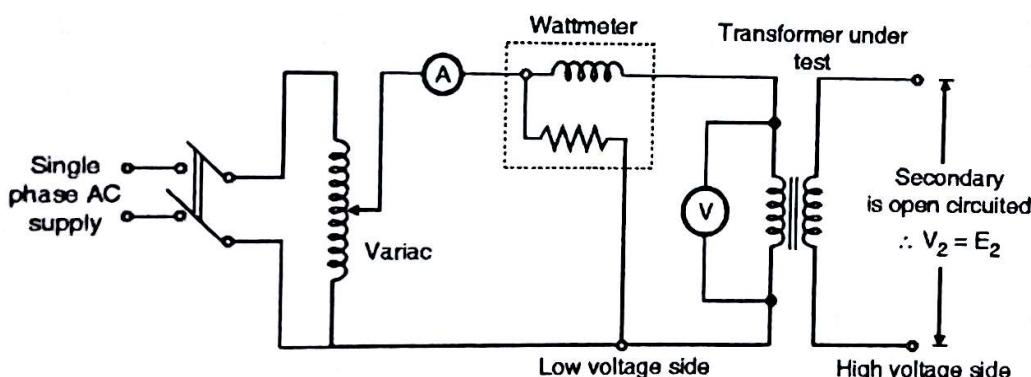

Fig. 4.9
1. Connect the circuit as shown in Fig. 4.9.